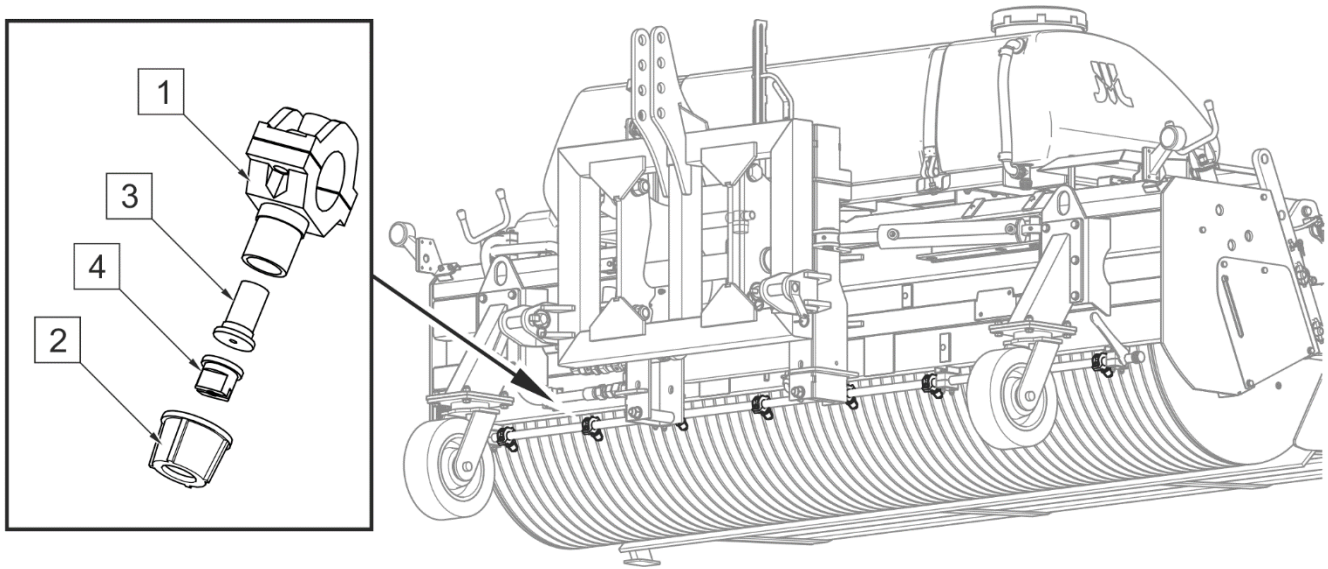

FIGURE 5.14 Filters of sprinklers
(1) - holder; (2) - nut; (3) - filter with a check valve; (4) - spray nozzle
There is a filter (FIGURE 5.14) inside each sprinkler. In order to clean the sprinkler filter (3), unscrew housing and wash or blow the filter with compressed air. Before installing the filter, confirm that the spray nozzle is not blocked. Check technical condition of sprinklers and, if necessary, replace them.